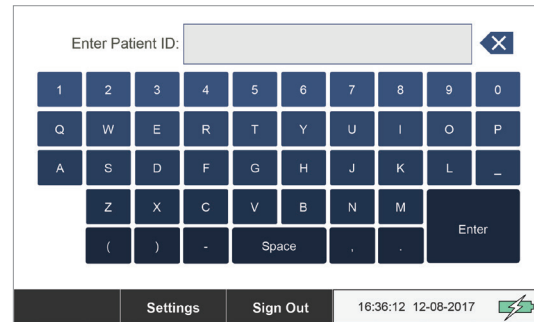

Figure 16 Patient ID Screen
8. To change a setting, start by pressing **Settings** on the **Enter Patient ID** screen. You will need to enter the code 123654 on the **Enter Access Code** screen to access the **Enter Patient ID** screen (see Figure 16).